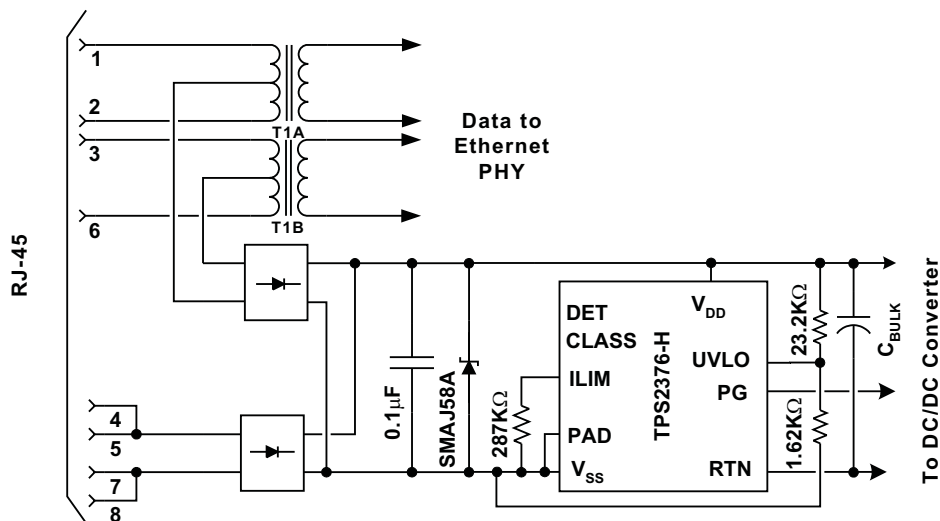

Figure 1. Typical Application Circuit
(1) Stresses beyond those listed under “absolute maximum ratings” may cause permanent damage to the device. These are stress ratings only, and functional operation of the device at these or any other conditions beyond those indicated under “recommended operating conditions” is not implied. Exposure to absolute–maximum–rated conditions for extended periods may affect device reliability.
(2) I(RTN) = 0
(3) SOA limited to V(RTN) = 80 V and I(RTN) = 900 mA.
(4) Surges applied to RJ-45 of Figure 1 between pins of RJ-45, and between pins and output voltage rails per EN61000-4-2, 1999.